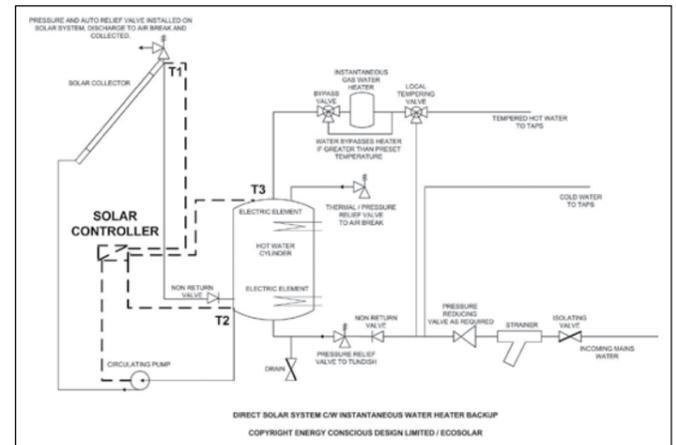

Figure 1: Direct solar water heating system being used as a preheater to an instantaneous gas heater
1. An instantaneous gas water heater as shown in Figure 1 below. If the water being heated by the solar system is up to temperature, the bypass valve in the hot water supply diverts the water around the instantaneous gas heater. If the water is not up to temperature the bypass valve directs the water through the instantaneous heater to be heated.